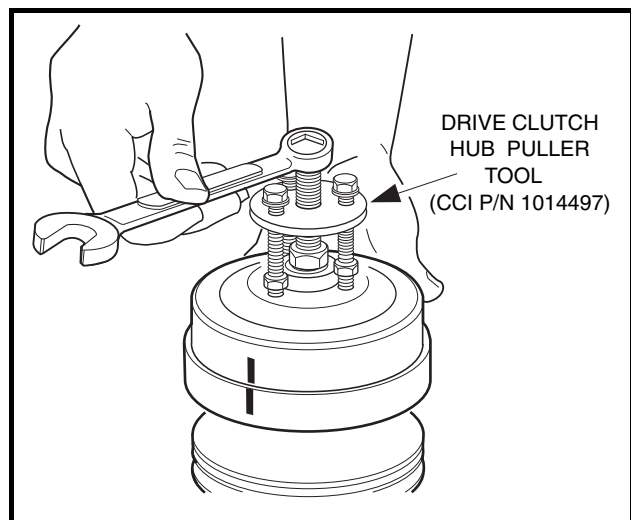

Figure 17-9 Remove Drive Clutch Hub
- 2.2. Thread the center bolt of the Drive Clutch Hub Puller (CCI P/N 1014497) into clutch until the stop nut touches the clutch, then back the bolt out one-half turn (Figure 17-9, Page 17-7).
- 2.3. Thread the three small bolts of the puller into corresponding holes in the clutch. Tighten bolts evenly, making sure the face of the puller plate is parallel to the face of the clutch (Figure 17-9, Page 17-7).